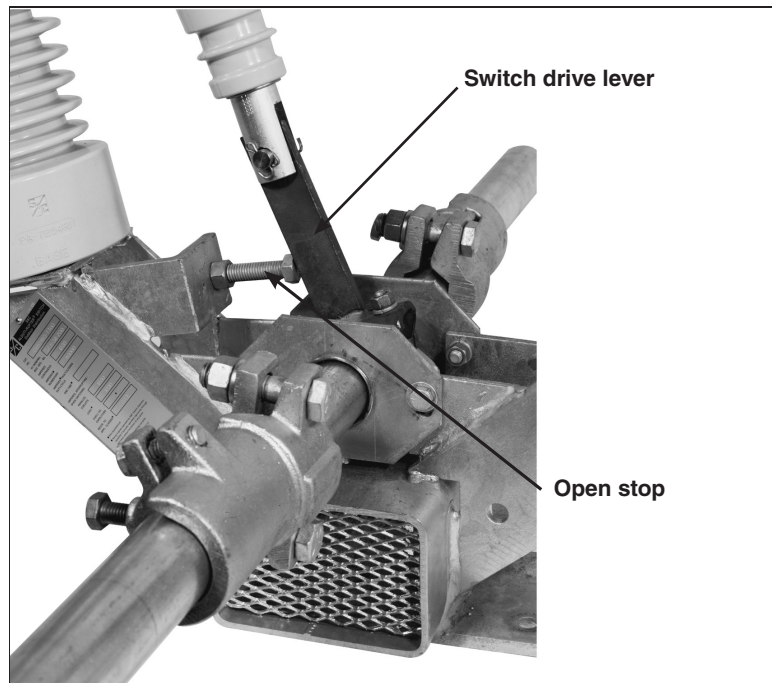

Figure 37. Verify the switch drive lever is against its open stop.
- (g) With the operating handle as far as it will go in the opening direction, each switch drive lever should lie snugly against its open stop as shown. See Figure 37. If necessary, readjust the open-position stop plates on the foot-bearing support plate. Follow the directions in “Checking Alignment and Adjusting the Stop Plates” on page 19.